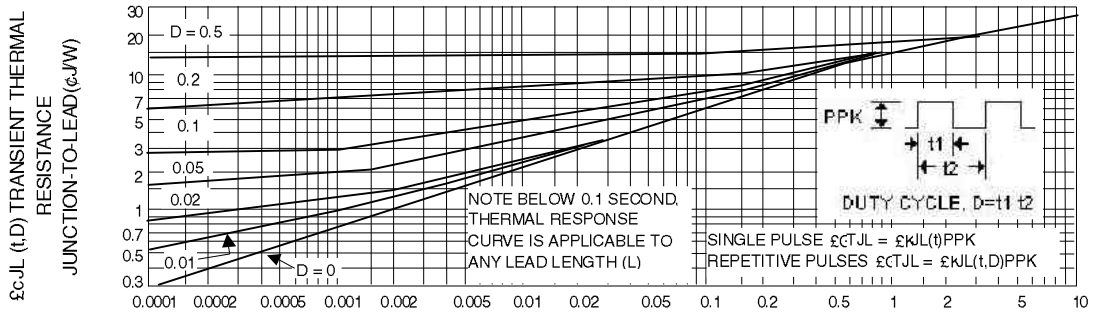
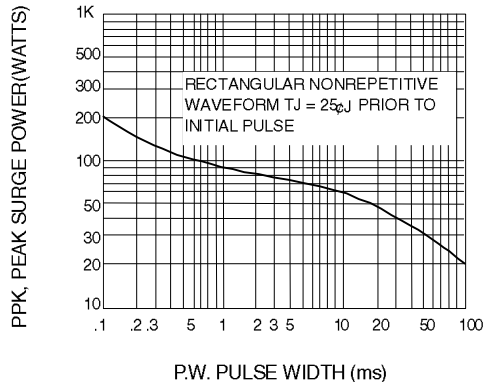
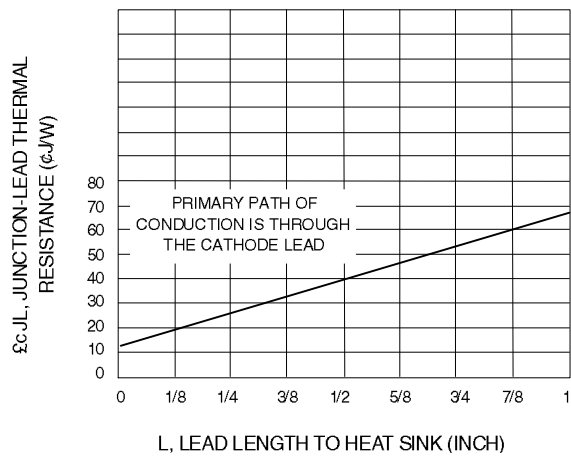

Fig. 2-TYPICAL THERMAL RESPONSE L,
Fig. 3-MAXIMUM SURGE POWER
Fig. 10-TYPICAL THERMAL RESISTANCE
4. SURGE CURRENT (I_r) NON-REPETITIVE - The rating listed in the electrical characteristics table is maximum peak, non-repetitive, reverse surge current of 1/2 square wave or equivalent sine wave pulse of 1/120 second duration superimposed on the test current, I_{ZT} , per JEDEC standards, however, actual device capability is as described in Figure 3.
$\theta_{GT_{JL}}$ is the increase in junction temperature above the lead temperature and may be found from Figure 2 for a train of power pulses or from Figure 10 for dc power.
Data of Figure 2 should not be used to compute surge capability. Surge limitations are given in Figure 3. They are lower than would be expected by considering only junction temperature, as current crowding effects cause temperatures to be extremely high in small spots resulting in device degradation should the limits of Figure 3 be exceeded.